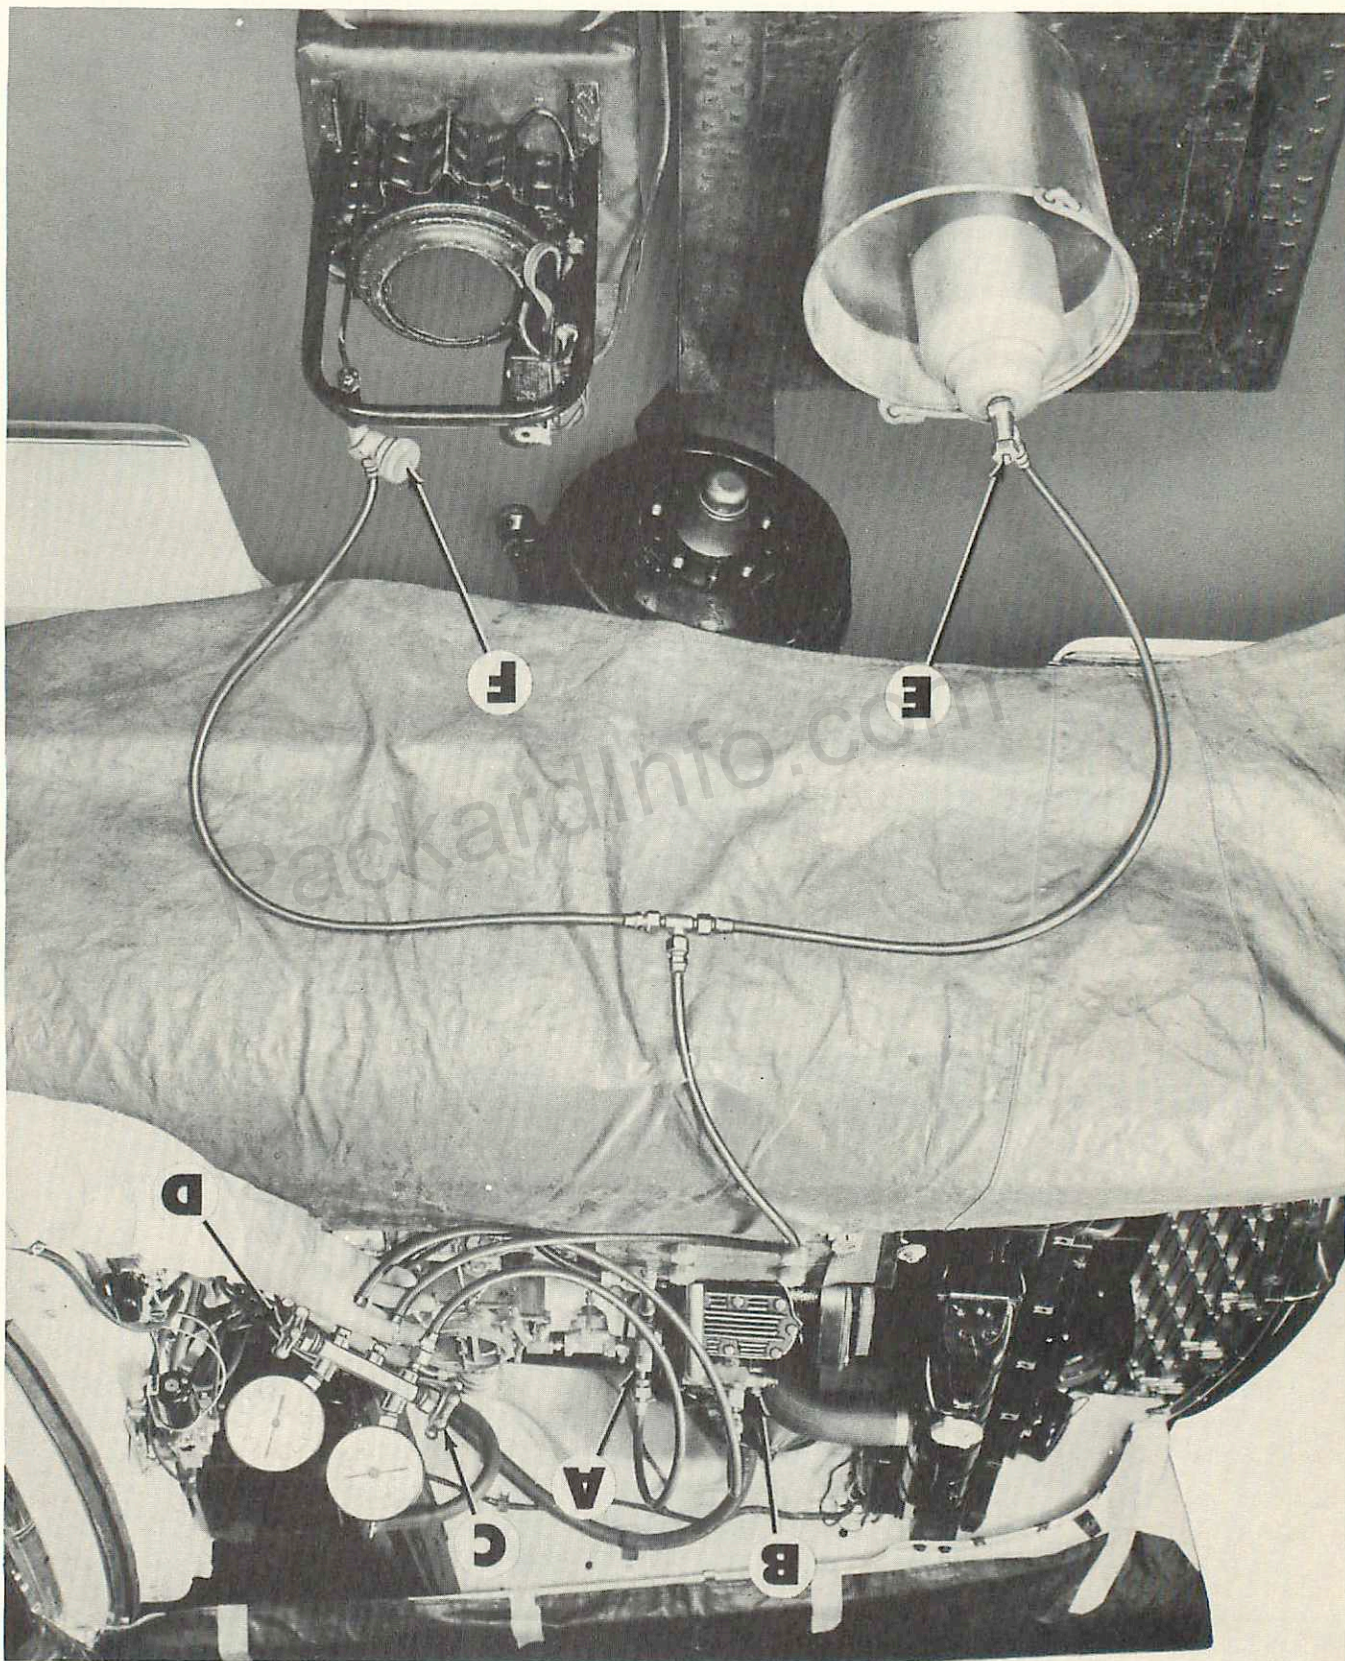

Figure 2
Attach the high and the low pressure gauge hoses to the compressor valves as shown in figure 2. The high pressure gauge hose should be connected to the high pressure shut-off valve "A." The low pressure and vacuum gauge hose should be connected to the low pressure shut-off valve "B." The vacuum pump and the Freon tank should be connected as shown.
1. Refer to figure 2. Valves "A" and "B" should be fully open (stems all the way out) when removing gauge port caps and connecting the gauge lines.
1. With the gauge set connected to the gauge ports at the compressor, as shown in figure 2, the valves should be in the following positions: Shutoff valves "A" and "B," fully opened (stems all the way out),—Hand valves "C" and "D," fully closed (valves all the way in).